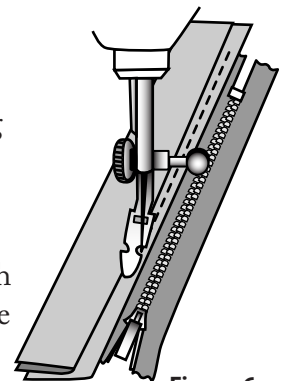

Figure 6
4. Close the zipper and flip zipper face up. Press the fabric away from the zipper, making a narrow fold/pleat close to the zipper teeth. Stitch from bottom to top, close to the fold, being careful not to catch other seam allowance with the stitching. (Figure 6)